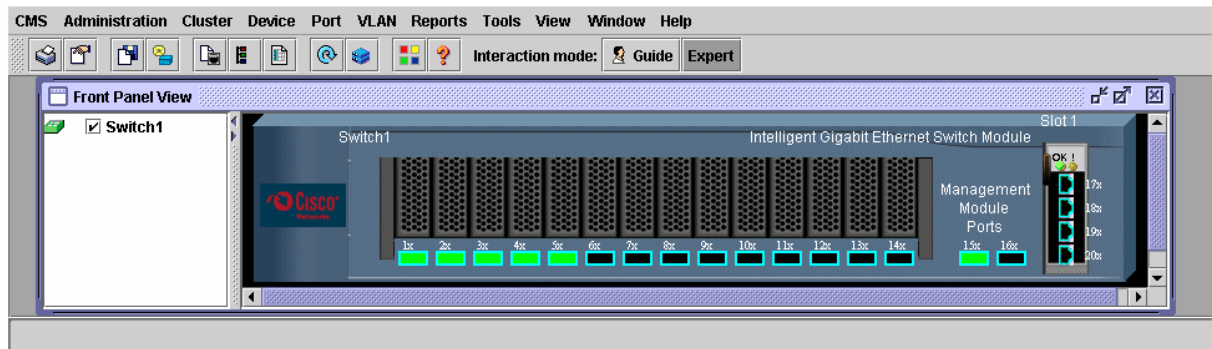

Figure 5-3 Cisco Systems Intelligent Gigabit Ethernet Switch Module Cluster Management Suite
Click **Cluster Management Suite** on the switch module home page. Enter the user ID and password of the switch, and you will be directed to a window similar to the one shown in Figure 5-3 on page 30.
- ▶ CMS (Figure 5-3)